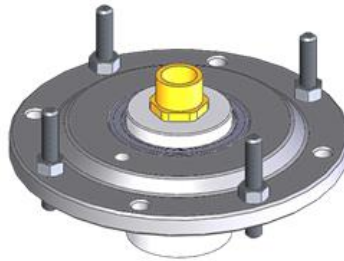

Figure 25: Brass Threaded Adaptor
- Screw the correct Brass Threaded Adaptor into the end of the shaft (Figure 25).